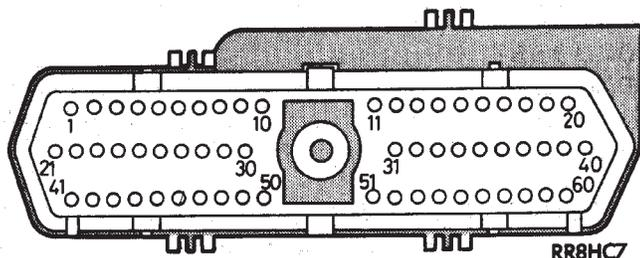

Fig. 14 Engine Controller 60-Way Connector Shown from Terminal End
(2) Remove speed control switch. Refer to Speed Control Switch Removal. Disconnect the 4-way connector.
(3) Using an ohmmeter test continuity between pin 23 of engine controller and pin 4 of the speed control switch harness. Refer to Fig. 14 for controller terminal locations.